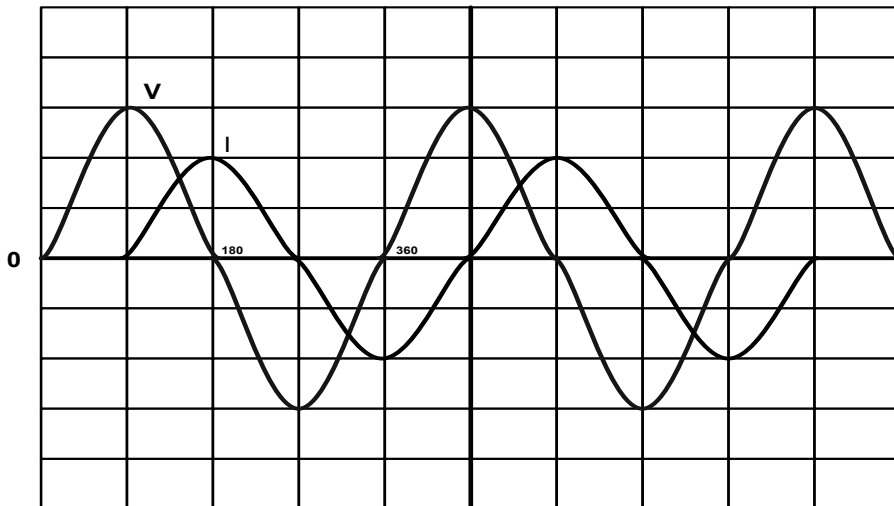

FIGURE 5.3: RL CIRCUIT WAVEFORMS
- 5.3 Study FIGURE 5.3 below and answer the questions that follow.